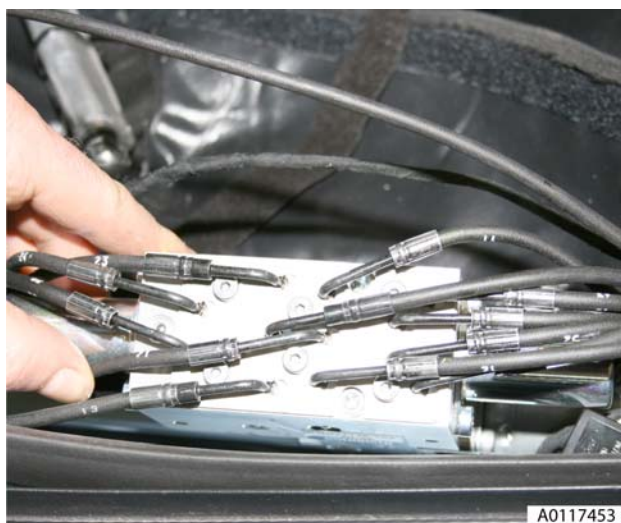

Figure 10
18. Loosen (x6) screws on pump retaining plate (see Figure 10).